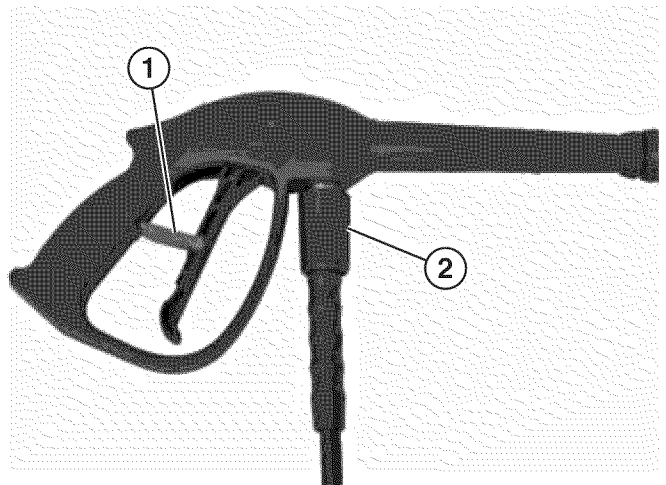

Figure 14 – Trigger Lock in OFF Position
14. Flip the trigger lock up to lock the trigger in the OFF position (see Figure 14).
15. Install the high-pressure hose to the spray gun and tighten the hose fitting (see Figure 14). Do not overtighten. The fitting only needs to be hand-tight.